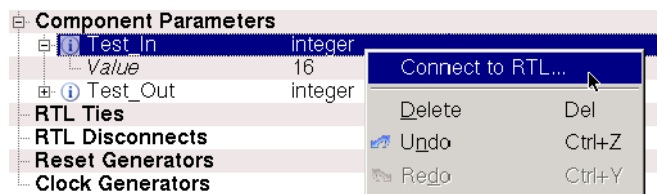

Figure 5-29 SoC Designer Plus Component Parameters
1. Right-click the parameter name and select **Connect to RTL** from the context menu (Figure 5-29).